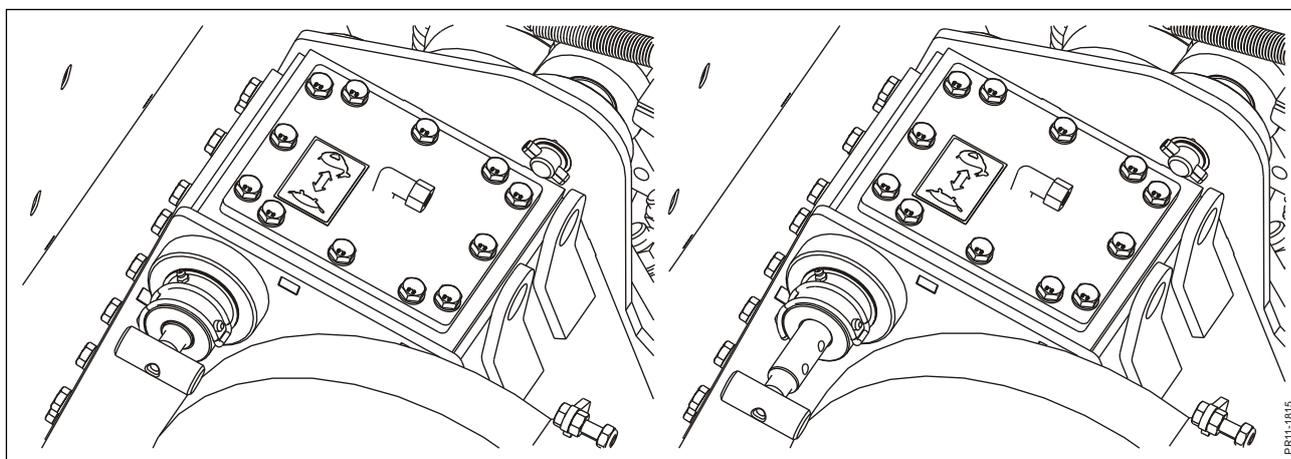

Fig. 4-20 Adjustment 1
**Fig. 4-20** The chopping length is changed on the harvest gearbox which has 2 gears. This is done by removing the split pin and moving the handle to the wanted position. **Mount the split pin again.**